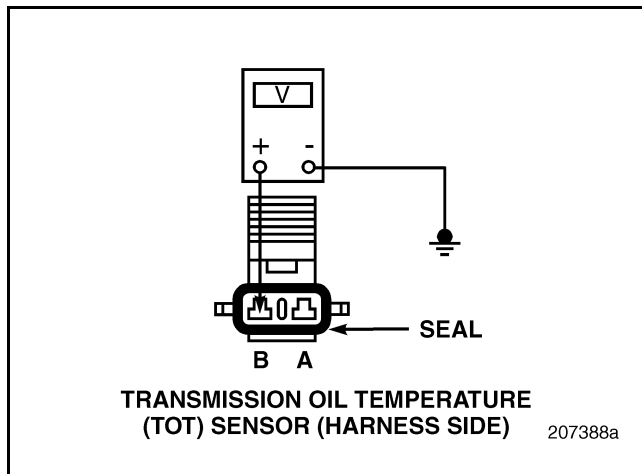

Figure 228
3. Measure the voltage between TOT Sensor harness connector pin B and a good ground (see Figure 228).